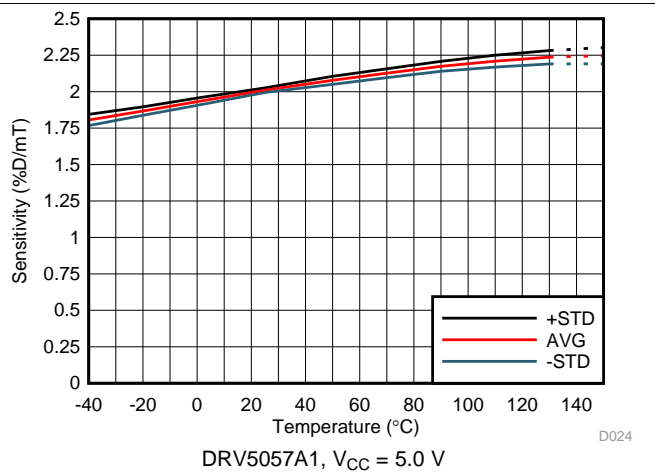

Figure 4. Sensitivity vs Temperature
(1) B is the applied magnetic flux density.
(2) See the section.
(4) See the Sensitivity Linearity section.
(5)  $S_{TC}$  describes the rate the device increases Sensitivity with temperature. For more information, see the Sensitivity Temperature Compensation for Magnets section and Figure 4 to Figure 11.